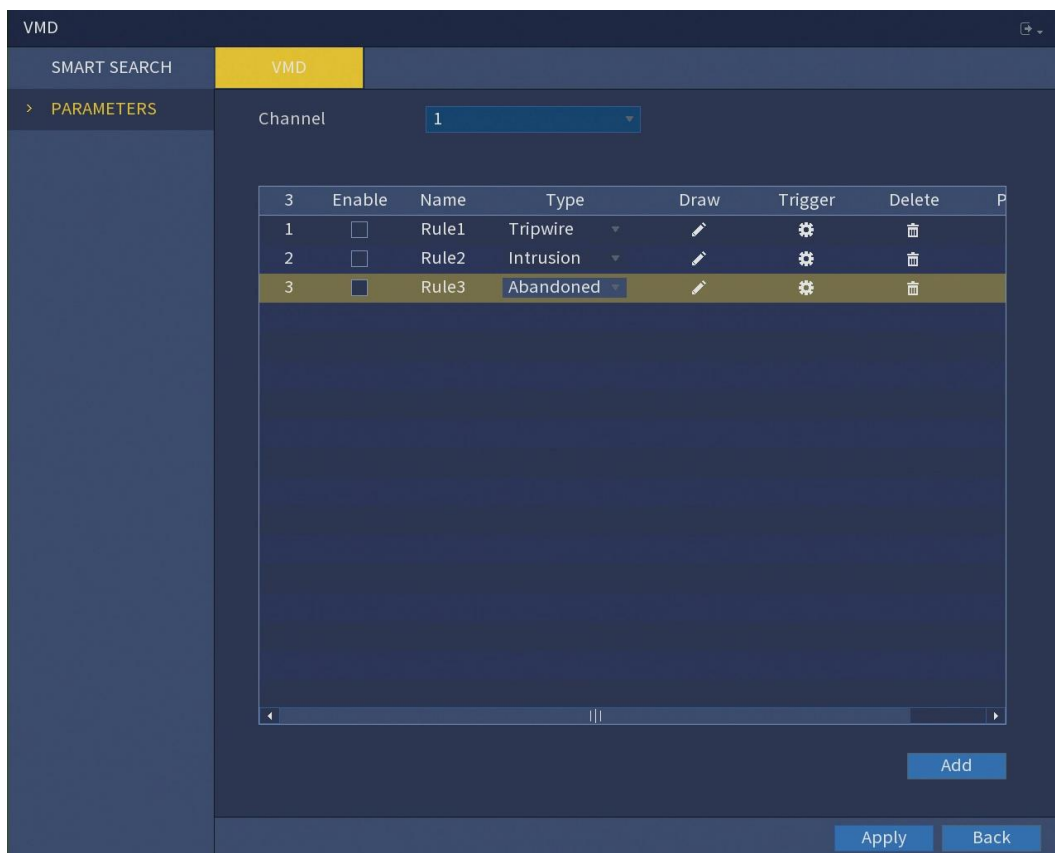

Figure 5-99
1. On the rule line that you added, in the **Type** list, select **Abandoned**. See Figure 5-99.